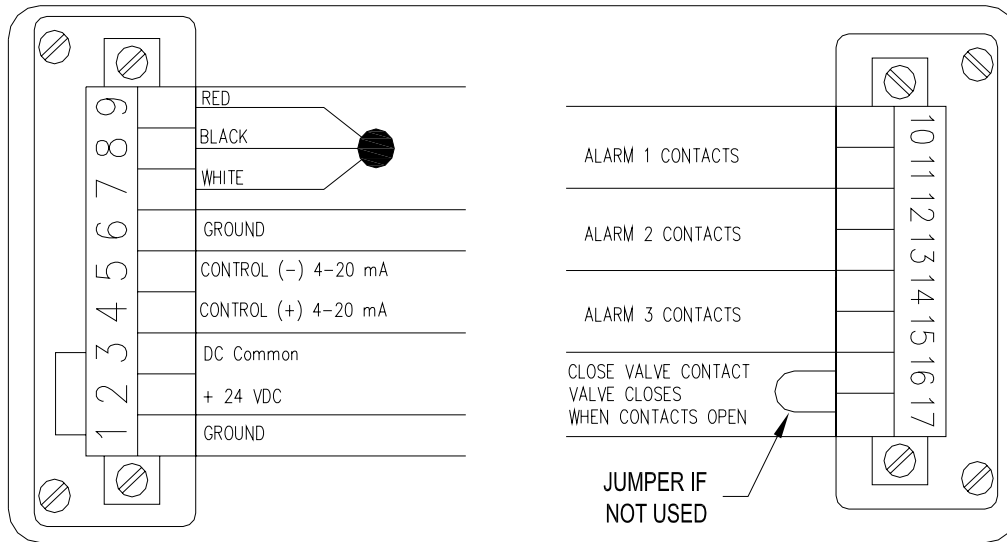

Figure 6
The Standard SAV Control Valve wiring terminals are located at the top of the SAV Control unit under the top cover. Remove the Four-(4) top cover screws and top cover to access the wiring terminals. The wiring terminals are a combination screw terminal/quick disconnect arrangement. The terminal block(s) may be removed by loosening the two screws located on either side of the terminal blocks. **Note:** Be sure to feed your wiring through suitable bushings in the knockout(s) before wiring the terminal blocks. All connections to the unit should be made in accordance with Figure 6 and Tables 1&2. Use 18 or 20 AWG wire for all connections.